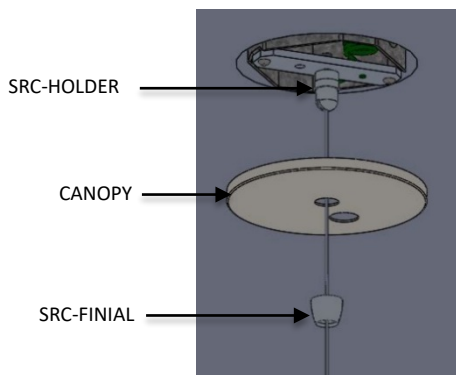

FIG. 21 – CANOPY DIS-ASSEMBLY
21. Once the SOLO BODY is secured to the AIRCRAFT CABLE (8) at the GRIPLOCK (8) Unthread the FINIAL from the MOUNTING BRACKET ASSEMBLY and lower the CANOPY as shown below in FIG. 21.